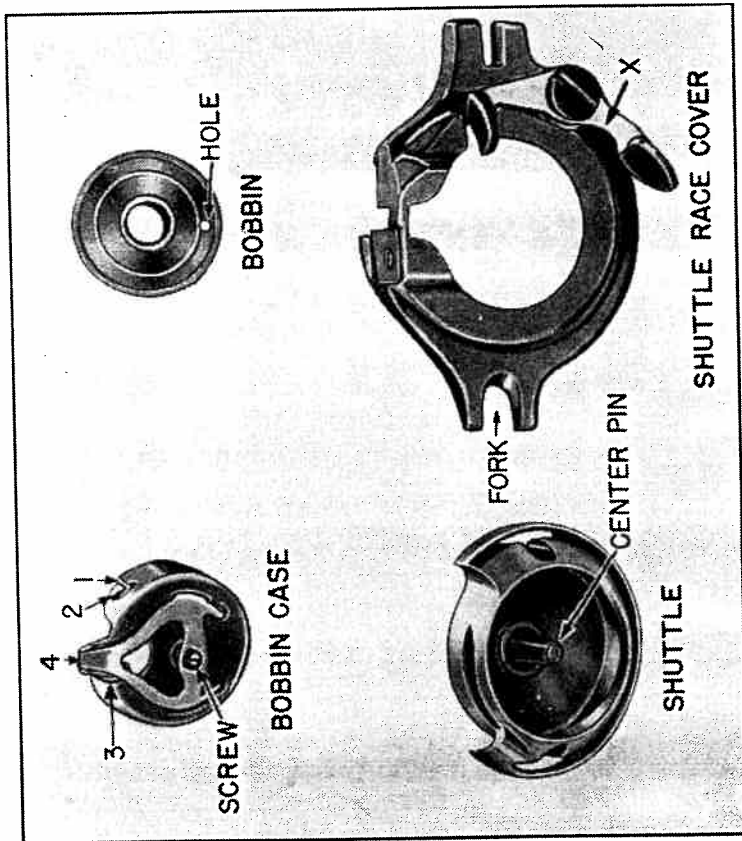
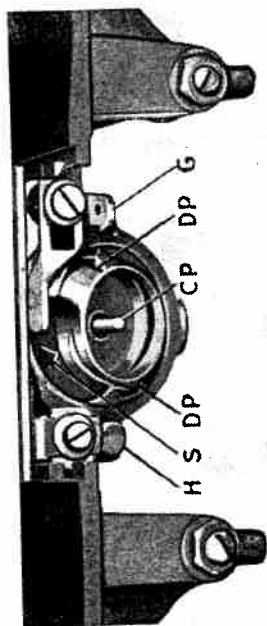

Figure 6
Figure 9
Occasionally, place one drop of oil on tip of finger and apply around outer rim of shuttle, race, and centerpin (CP) Fig. 6.
(See Fig. 6)
To thread the bobbin case, hold it in the left hand with the first finger and thumb at the point marked "screw" on the bobbin case illustration, Fig. 6, then place the bobbin in the bobbin case so that the thread comes from bobbin straight through slotted eyelet No. 1 and continuing on up the slot to point No. 2, then through slot No. 3 and downward holding the thread and the bobbin in the case taut, then pull the thread upward so that the thread hooks under point in lower part of slot No. 3, continuing to pull thread upward and out
The center spindle on the inside of the bobbin case fits over center pin of the shuttle as shown in Fig. 6.
Next, turn the hand wheel just as you would in sewing until the point of the needle is just entering the needle plate hole, then press the rear end of latch "G" as shown in Fig. 9. This operation will release the shuttle race cover which is pictured in Fig. 6—and the shuttle can readily be removed.
Next, to remove the shuttle simply take hold of the center pin (CP) in the shuttle as shown in Fig. 9 and it can readily be taken out **WITHOUT FORCE**.
Turn the hand wheel until the point of the needle is just entering the needle plate hole. Hold the shuttle by the center pin "CP", (Fig. 9) between the first finger and thumb of the left hand and place it in the race as illustrated in Fig. 9 so that the driving pins "DP" enter the two holes on each side of the shuttle. The SHARP point of the shuttle is almost directly over the arrow marked "S", and it is very important that it be so placed. It should **not** be necessary to force this shuttle in to place. If in the proper position it will readily enter the race and fit over the driving pins "DP". It is imperative that this shuttle be properly placed in the race, so take care to follow instructions carefully. Then replace shuttle race cover (see Fig. 6) by inserting the fork at left side of shuttle race cover (see Fig. 6) under spring pin "H" (Fig. 9) and snap cover under latch "G".
To adjust tension of lower thread see illustration of Bobbin Case Fig. 6. For greater tension tighten center or spring screw; to loosen tension loosen screw. In either event a VERY SLIGHT turn of this screw is sufficient.
If the machine should be run without sewing and thread gets in the shuttle race making the machine run heavy, take out bobbin case and turn the hand wheel in the wrong direction several times and it will cut the thread out; failing to do so remove the shuttle and clean the race and driving pins. (See Fig. 9)